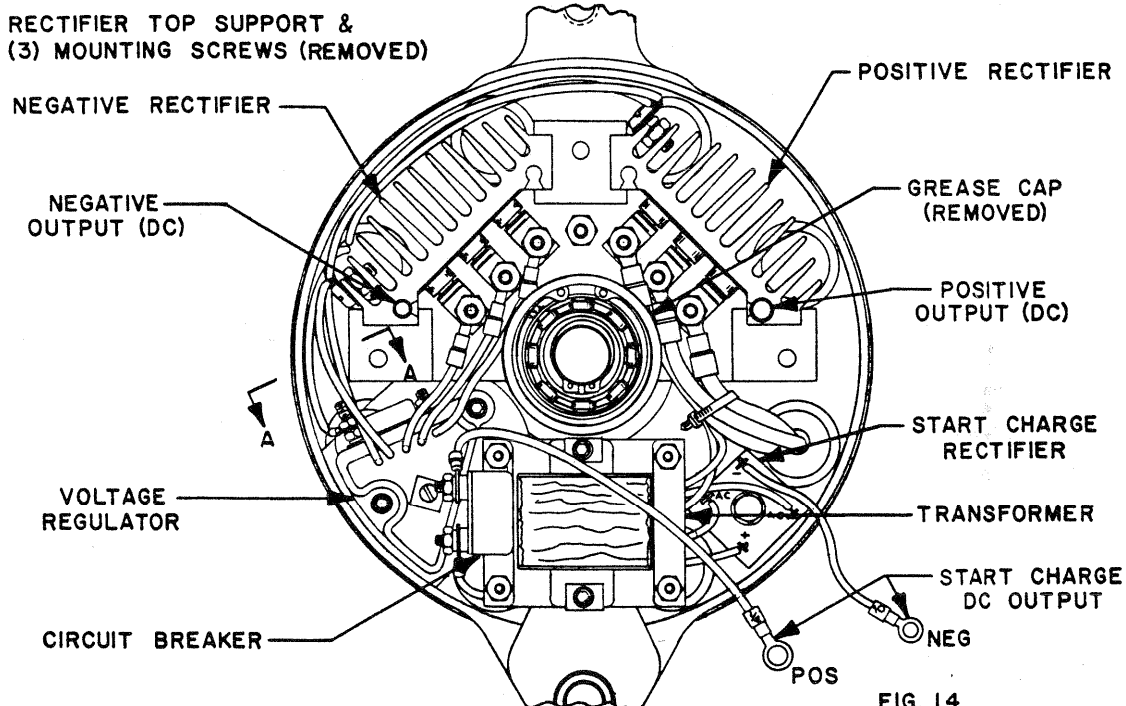

FIG. 14
- R1. Place rear cover in position and align to rectifier top support. Check to be sure that full field terminal is pointing toward the cover and in line with the plastic snap bushing in the cover. See Fig. 14.
REAR SECTION COMPONENT REMOVAL (See Fig. 14)